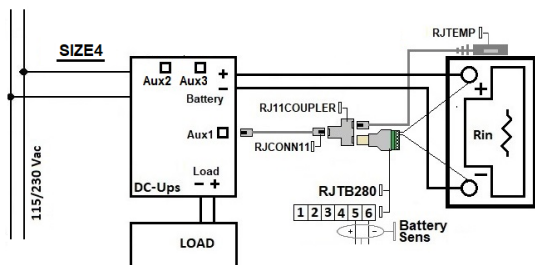

Fig.5
- Battery Sense connection YES; only for the device Size4 (Fig.5)
The Size 4 devices can operate either with or without the battery sense connections. If the battery sense cables are correctly connected as in Fig.5, the device automatically detects them and uses them for the battery internal resistance measurements. In such case the battery cables resistance measurement information (HR40102) is neither needed nor used. This configuration is the one which ensures the maximum measurement accuracy because it is not influenced by the battery cables resistance.